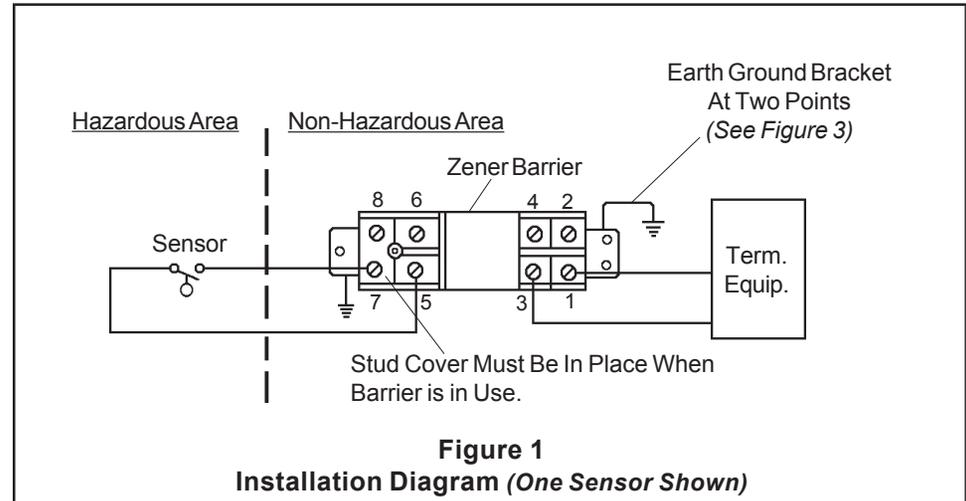

Figure 1
1. Only one sensor and one receiving station per channel may be connected to a barrier. (See Figure 1) The nature of the sensor must be that it is a non-voltage producing, resistive termination containing no energy-storing devices.